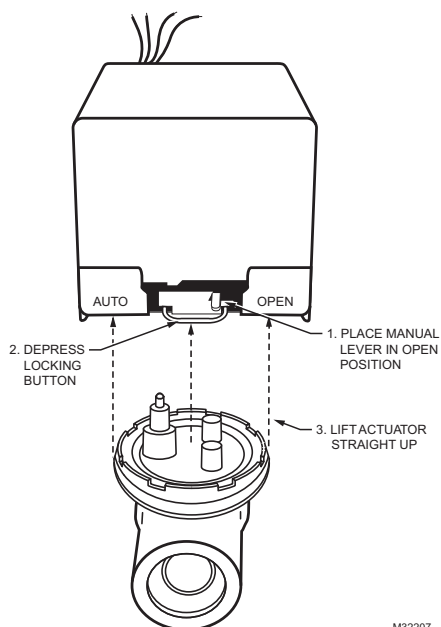

Fig. 2. VU actuator removal.
1. Place manual operating lever on the actuator in the MAN. OPEN position. See Fig. 2.